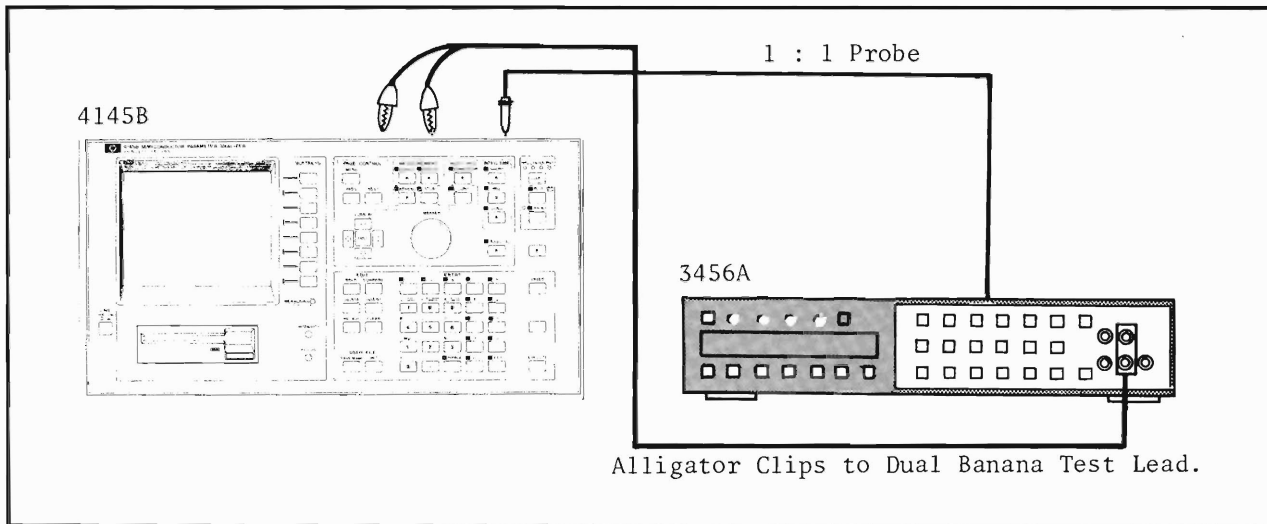

Figure 5-14. D-A Converter Gain Adjustment Setup.
- Adjust A4C1 until the height of the pulse at A4TP2 is minimized (less than 0.5mV) as shown in Figure 5-14.